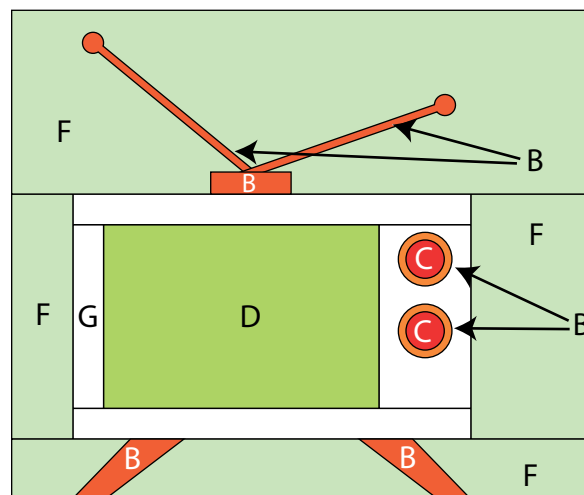

Fig. 4
7. Repeat Steps 1-6 using Figures 4 through 7 for fabric identification and location to make TV Block Two, TV Block Three, TV Block Four and TV Block Five. Note that on TV Block Four, the Fabric D side strips are reversed.